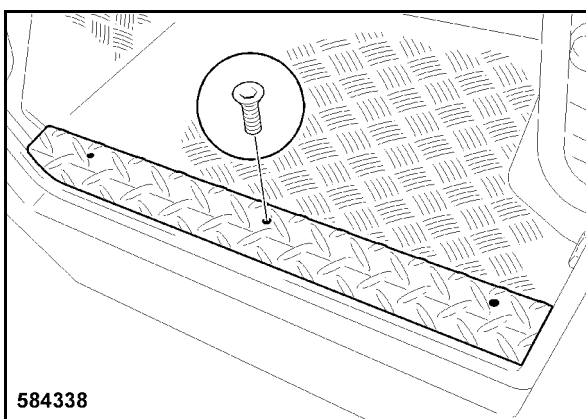

Fig. 221
- Attach the step plate 1 (Fig. 221) and tighten the three fastening screws (2).